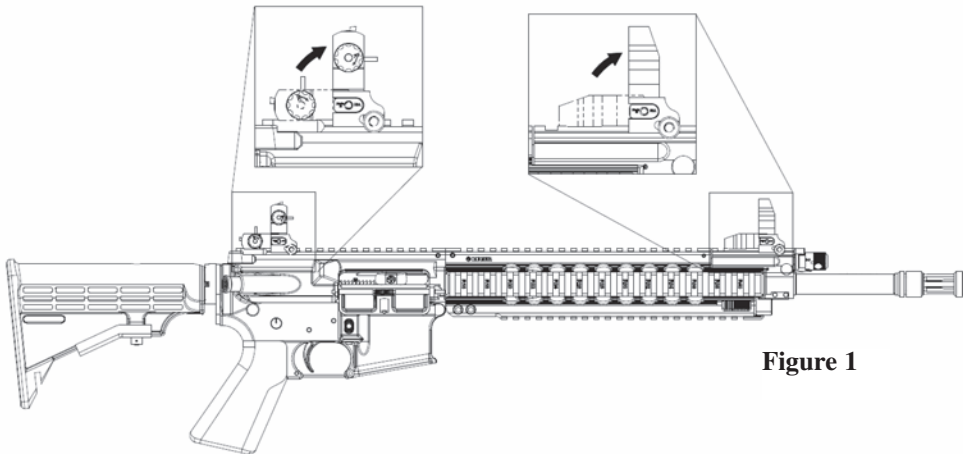

Figure 1
1. Ensure that the sights are “up” by manually rotating the sight posts upward from the base until they lock in place. (See Figure 1.)